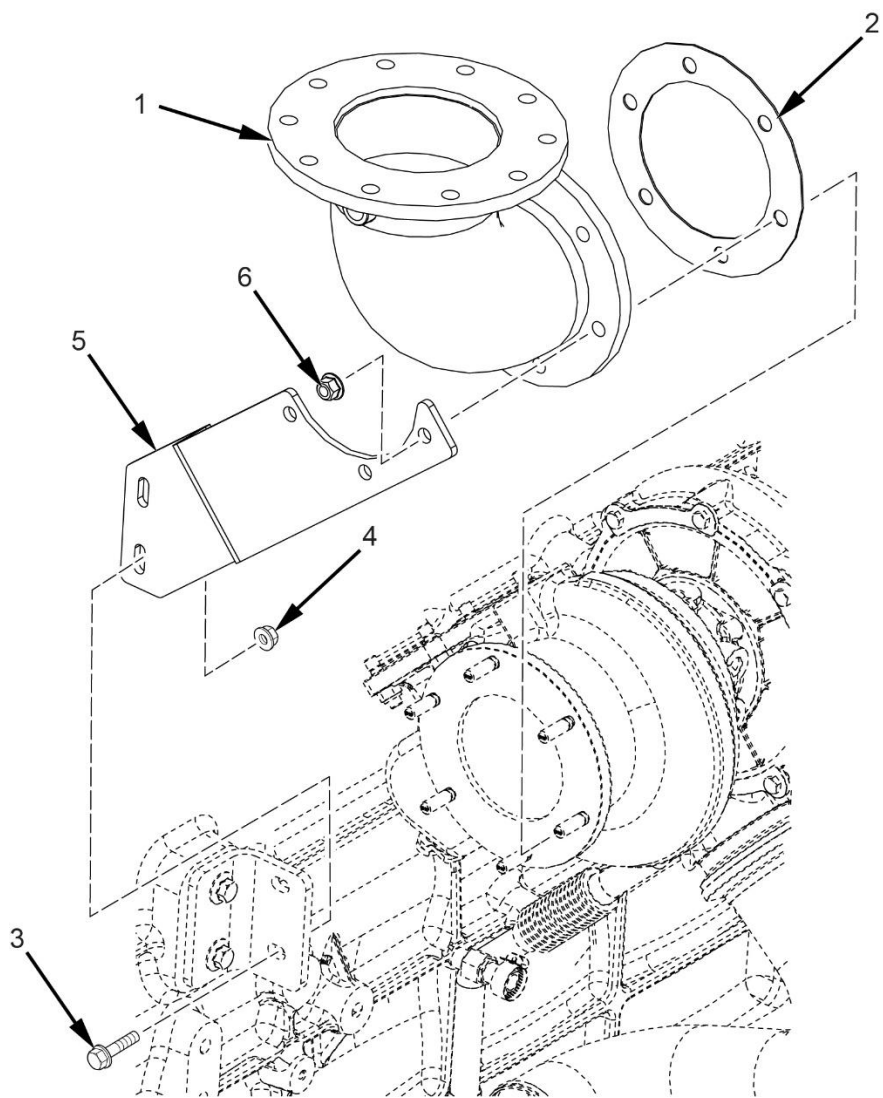

Figure 24. Exhaust Pipe Assembly
1. Remove bolts (Figure 24, Item 3) and nuts (Figure 24, Item 4).
2. Remove three nuts (Figure 24, Item 6) securing plate (Figure 24, Item 5).
3. Remove plate (Figure 24, Item 5).
4. Remove three remaining nuts (Figure 24, Item 6) securing exhaust plate (Figure 24, Item 1).
5. Remove exhaust plate (Figure 24, Item 1) and gasket (Figure 24, Item 2) from turbocharger.
1. Install new gasket (Figure 24, Item 2) onto turbocharger and install exhaust plate (Figure 24, Item 1) and install three nuts (Figure 24, Item 6) to top three studs.
2. Install plate (Figure 24, Item 5) and install three remaining nuts (Figure 24, Item 6) to bottom studs of turbocharger and exhaust plate (Figure 24, Item 1).